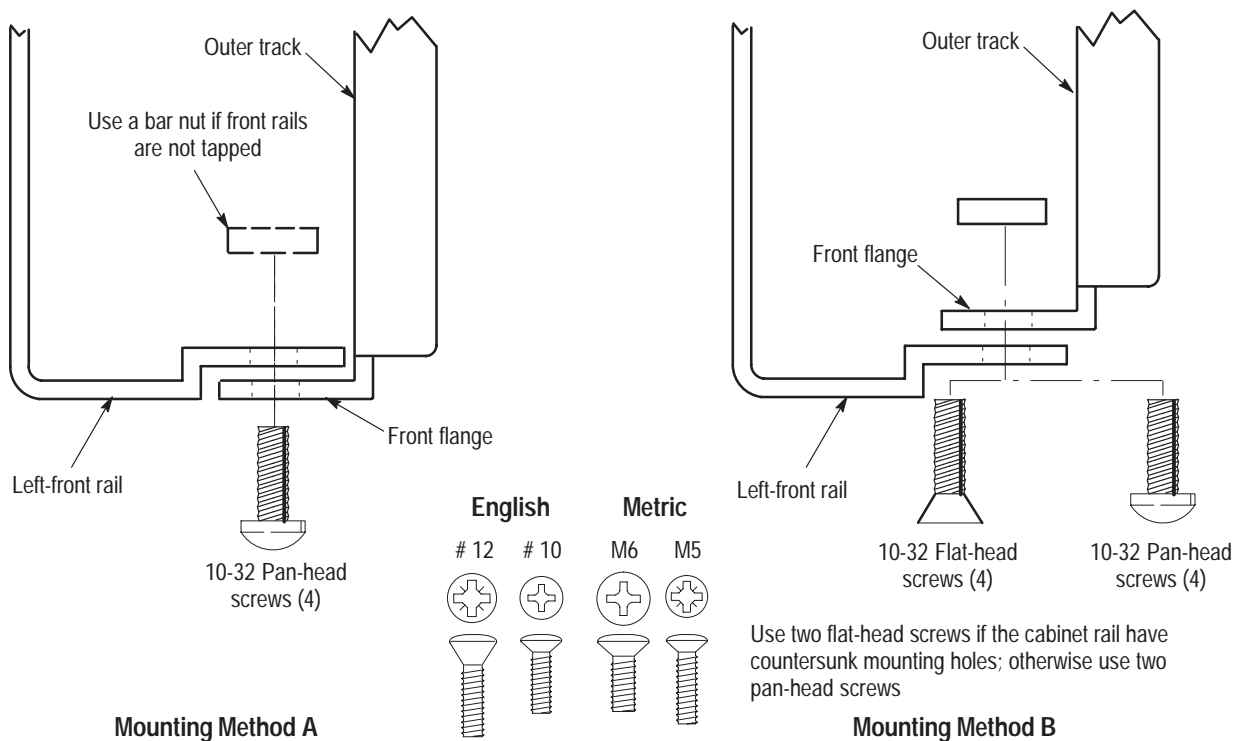

Figure 11: Installation of slide-out track assemblies in rack (top view)
- To mount the slide-out tracks with their front and rear flanges outside of the front and rear rails, use the mounting method A shown in Figure 11 when doing substep c. Add a bar nut to the installation only if the rails have untapped holes.
- To mount with front and rear flanges inside of rails, use the mounting method B outlined in Figure 11. This mounting method assumes untapped holes.